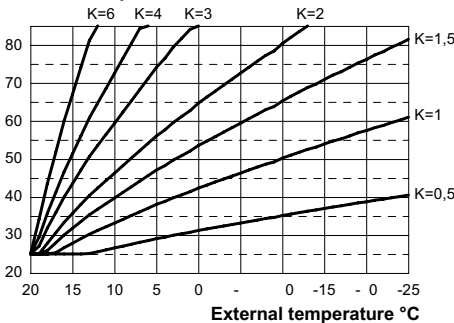

Fig. 7.16
If the boiler is **EQUIPED** with the remote control (optional) refer to Fig. 7.16. In this case K setting must be done from the remote control.
The K coefficients is a parameter that increases or reduces the boiler flow temperature when the outside temperature changes. When installing the external probe it is necessary to set this parameter based on the efficiency of the heating plant in order to optimise the flow temperature (Fig. 7.16). E.g. In order to have a flow temperature at the heating plant of 60°C with an external temperature of -5°C, set a K at 1.5 (sectioned line in Fig. 7.16).
- Using keys 15 or 16 it is possible to change the value of parameter 15 from a minimum of **01** to a maximum of **60** based on the selected bend of the K coefficient in Fig. 7.16